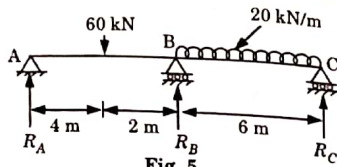

Fig. 5.
- b. Analyse the following continuous beam shown in Fig. 5 using method of consistent deformation. Draw the bending moment diagram.
- Therefore in the continuous beam ABC (Fig. 5). Taking the moment about 'C'